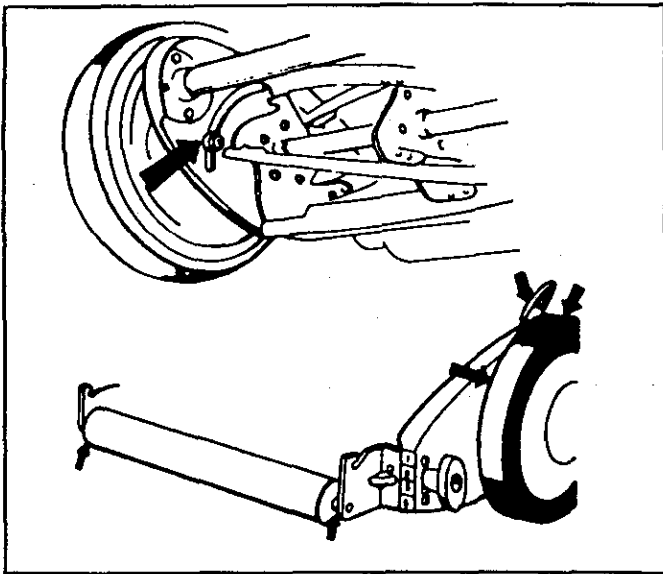

FIGURE 7
- Lubricate the wheel adjustment mechanisms and the roller with a light oil as shown in figure 7. Periodic lubrication of these points will help ensure smooth mechanical operation.